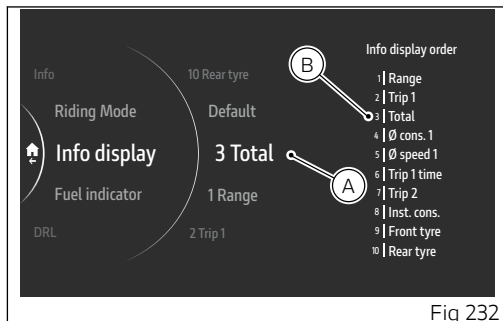

Fig 232
- Press ENTER to confirm. The order of the Info display is then updated with the new position (B, Fig 232).